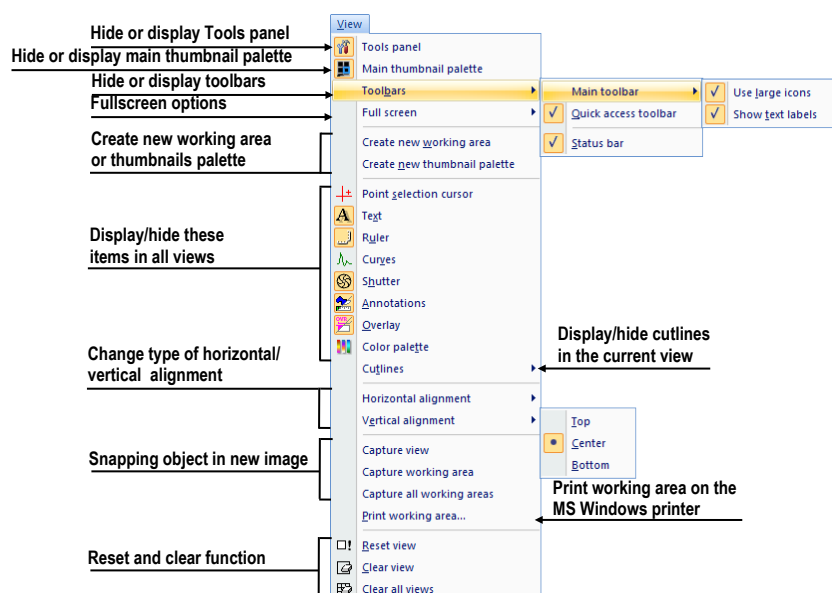

Figure 43 – View menu
- **View** – displaying/hiding toolbars, image descriptions, cutlines, changing the current view size, deleting views, creating new working areas or thumbnails palettes and changing the alignment of the images in the views (see Figure 43).